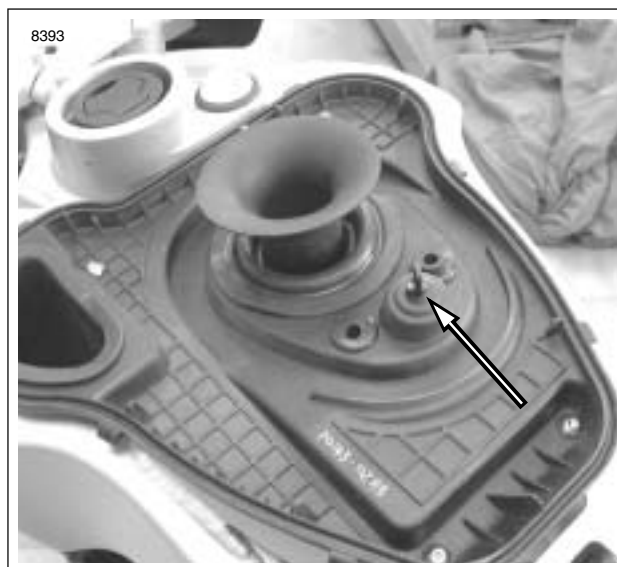

Figure 4-78. Intake Air Temperature Sensor Installed
See Figure 4-78. The intake air temperature sensor (IAT Sensor), located on the airbox base plate, measures the air temperature allowing the ECM to calculate the density of the air entering the manifold. The IAT is a thermistor type sensor.
2. See Figure 4-78. Remove airbox cover and filter. Remove fasteners securing base. See 4.44 AIRBOX.